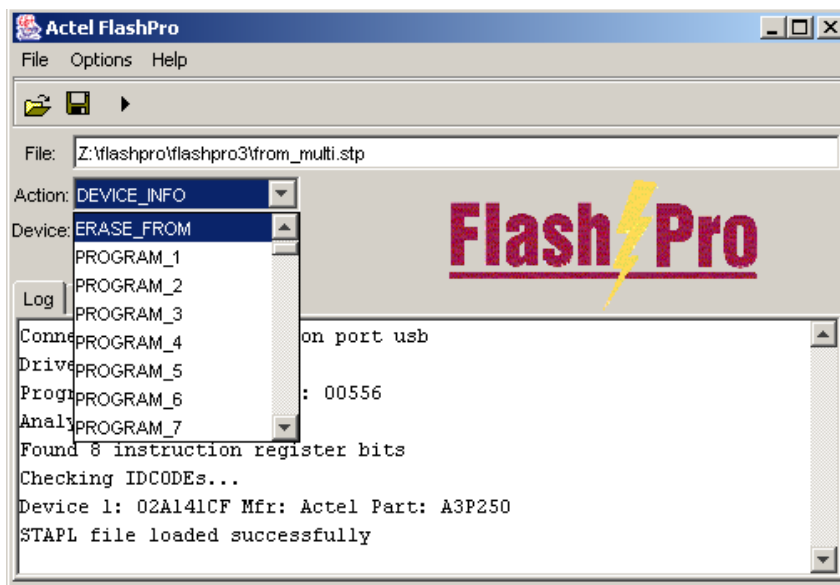

Figure 4-23. Action Combo Box
**Note:** The Action Combo box contains all of the actions in the STAPL file. See Figure 4-23.